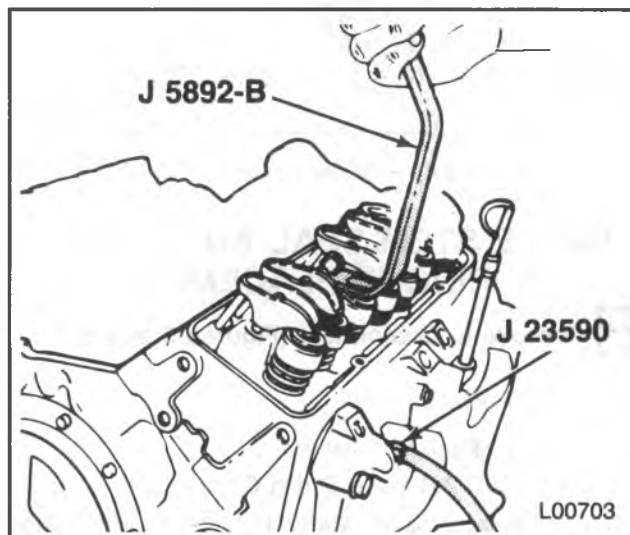

Figure 6 — Compressing the Valve Springs
4. Valve keepers (20).
- Install J 23590 into the spark plug hole (figure 6).
- Use J 5892-B to compress the valve spring (figure 6).
5. Cap (21) or rotator (28), shield (22), and spring (26) with damper (25).
6. O-ring seal (23).
7. Seal (24) (intake valve only).
1. New seal (24) (intake valve only). Install the seal over the valve stem and seat it against the head.
2. Spring (26) with damper (25), shield (22), and cap (21) or rotator (28).
3. New o-ring seal (23) and valve keepers (20).
- While applying air pressure to the cylinder with J 23590, compress the spring using J 5892-B (figure 6).